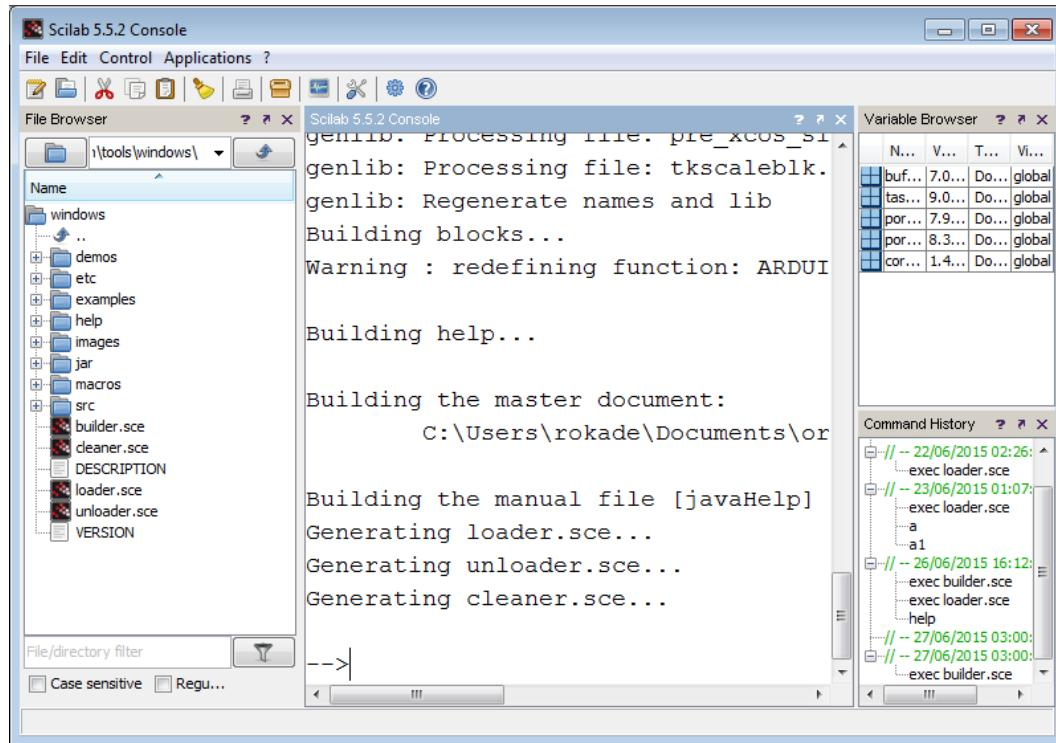

Figure 3.9: Output of builder.sce
4. After the previous step, the Scilab working directory becomes the toolbox folder. See the **file browser** panel on the left-hand side of the Scilab console, see Fig. 3.9. It will list out the contents of your current working directory. For a check, look for the file **builder.sce**. If you see this file, then you are in the right directory.
5. Next, type the following command on the Scilab console: **exec builder.sce** - this will build the toolbox and create a file **loader.sce**. This step has to be executed only the first time. The output of this step is illustrated in Fig. 3.9.